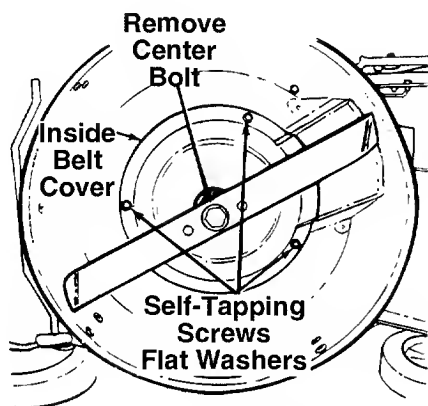

FIGURE 12A.—Single Speed Models
7. A. **Single Speed Models:** Remove the inside belt cover by removing three self-tapping screws and flat washers. A 3/8" wrench is required. See figure 12A.